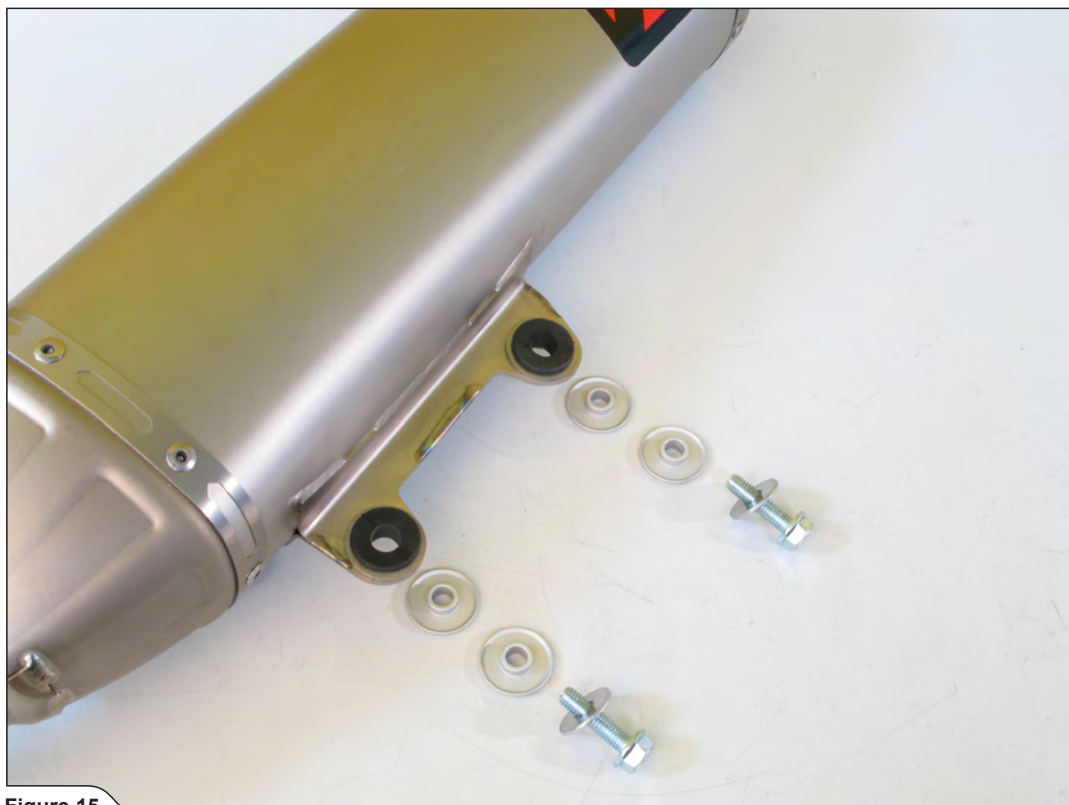

Figure 15
7. Assemble the aluminium bushes from Akrapovič installation kit into the rubber muffler's brackets, as shown (Figure 15, 16).